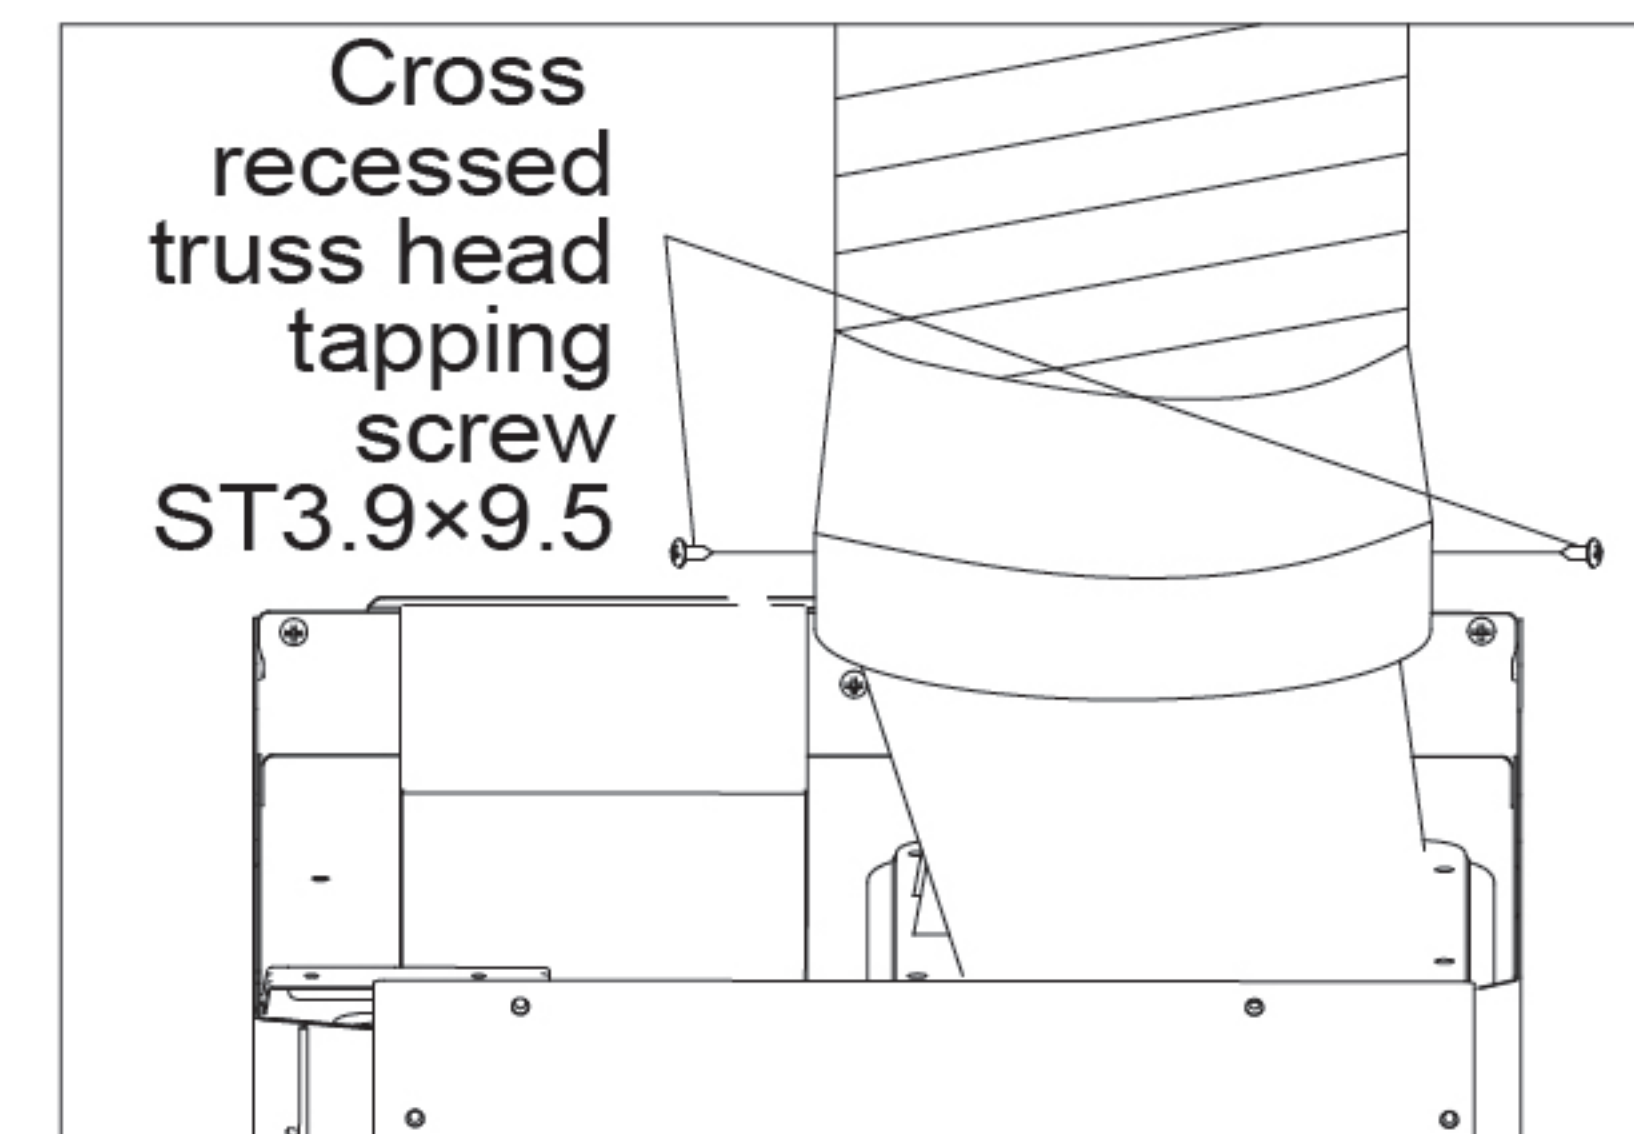

Fig.20
12. Fix the exhaust duct on the outlet housing with 2 ST3.9x9.5 tapping screws and then wrap it with sealing tapes (as shown in Fig. 20).